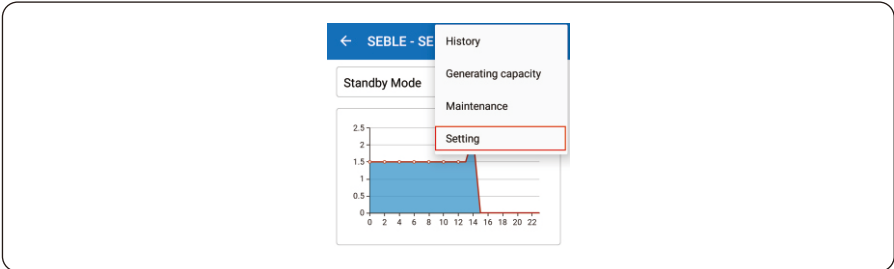

Figure 5.22 APP homepage setting
Step 2 Click the Extension key, and select Setting in the prompt manual, as shown in Figure 5.22.